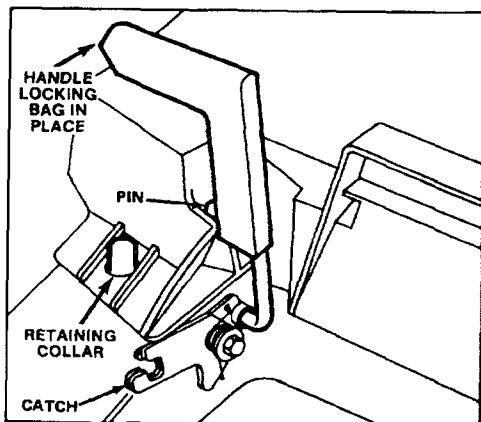

Figure 12
3. **INSTALLING BAG** — Slide hole in bag frame onto retaining collar on housing (Fig. 12) and set rear of bag frame onto lower handle.
4. Pull chute door handle forward until pin clears catch and move handle rearward until pin locks in bag notch (Fig. 12). Chute door in mower housing is now open. It may be necessary to push down on top right of bag door to release handle locking pin from catch.